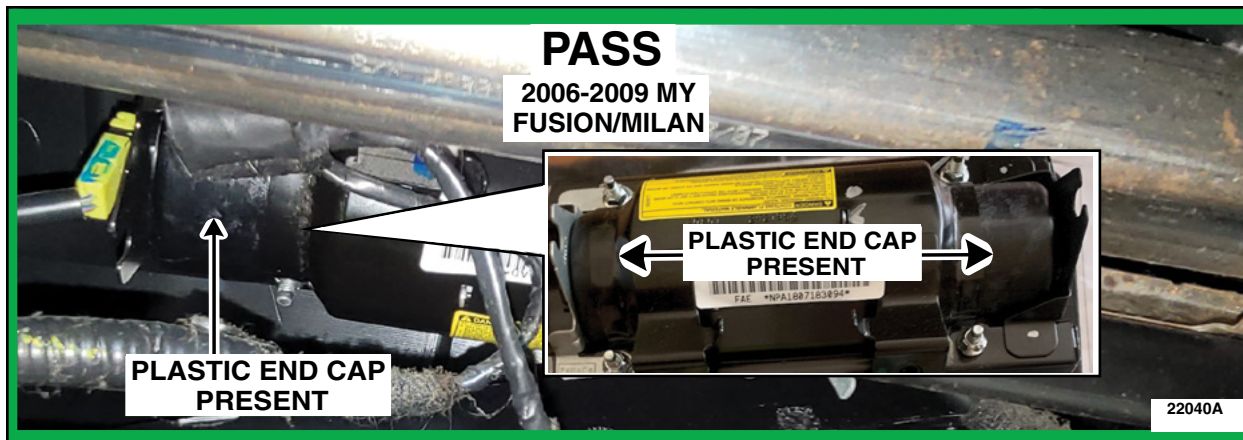

FIGURE 1
1. Fully lower the glove compartment door. Through the glove compartment opening, look up at the passenger airbag module. Inspect the passenger airbag inflator end for the presence of a plastic end cap as shown. For 2006-2009 MY Fusion/ Milan vehicles see Figure 1. For 2010-2012 MY Fusion/ Milan vehicles see Figure 2. Are the plastic end caps present on the airbag inflator?
Yes: Inspection **PASS** See Figures 1 and 2. - No Repair Is Needed